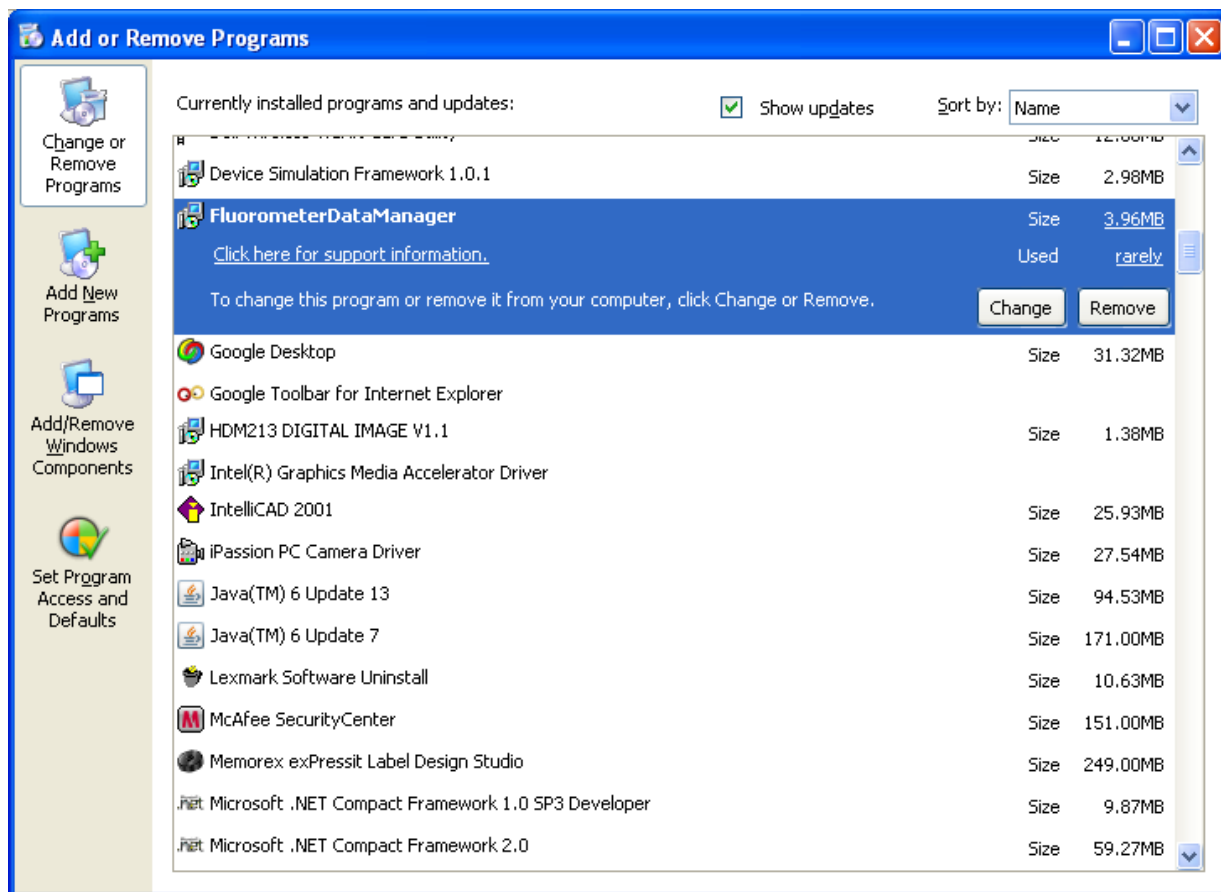

Figure 16. Uninstall Handheld Fluorometer application program
- b. Double click  **Add or Remove Programs** tab in the “**Control Panel**” menu to get “**Add or Remove Programs**” window, as shown in Figure 16.